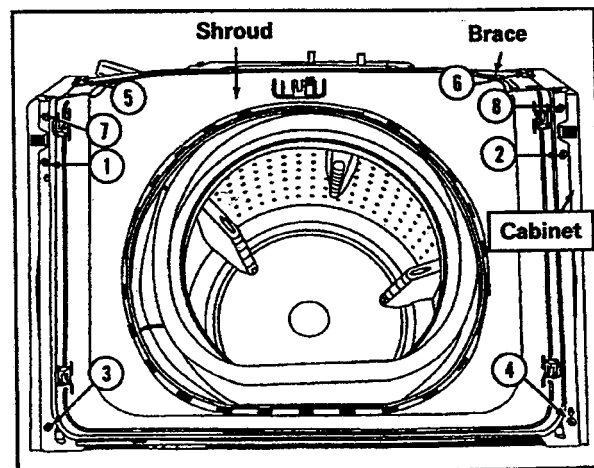

Figure 2-36
5. Removal and replacement of screws in the following order is necessary to provide proper alignment of the parts. Failure to do so, will hinder removal and replacement of the shroud (*Figure 2-36*).